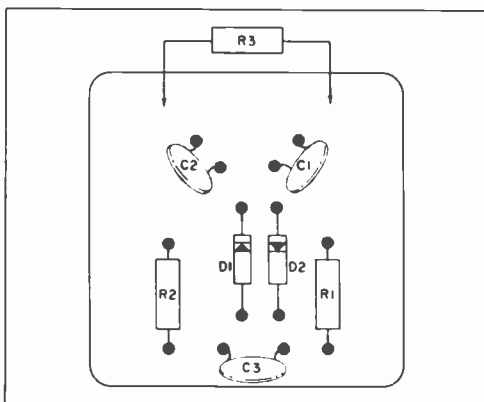

Fig. 2. Component side of actual-size printed circuit board with "see-through" view of foil side.
The tilt on the left side of the trace (Fig. 2) shows emitter-to-base reverse
**Construction.** Almost any type of chassis construction can be employed, but keep component leads as short as possible. If you prefer a printed circuit board layout, you can make your own by using Fig. 2 as a guide. Parts placement, however, is not critical.